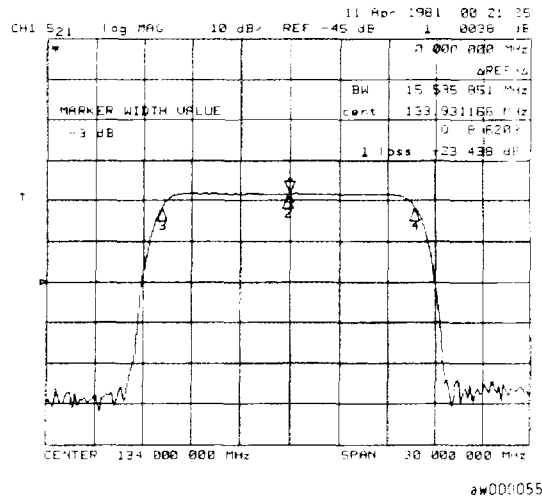

Figure 7-11. Example of Searching for a Bandwidth Using Markers
- 3 Press **WIDTHS ON** to calculate the center stimulus value, bandwidth, and the Q of a bandpass or band reject shape on the measurement trace, as shown in Figure 7-11.